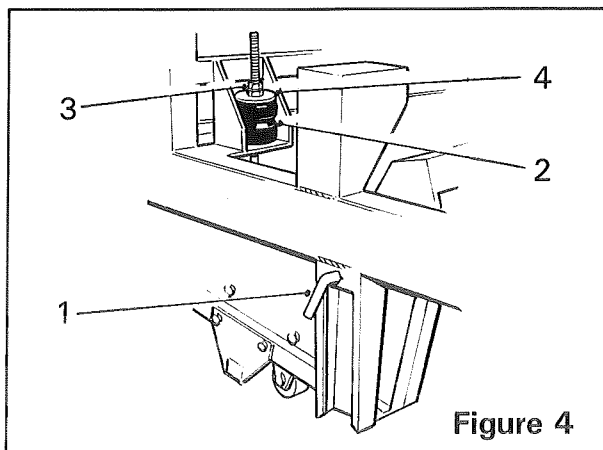

Figure 4
*Before attempting to lower the 1st stage, ensure that the locking pins (item 1, figure 4) are in the unlocked position. To unlock the 1st stage, raise the digger web slightly and then rotate the locking pins through 90° and pull them out.*
The diablo rollers control the digging depth while at the same time ensure even digging with the help of the dampers (item 2, figure 4). The rollers are adjustable for depth of work and for different widths of bed.
2. Loosen and completely back-off the damper adjusting nuts (item 3, figure 4).
4. Turn the damper adjusting nuts (item 3, figure 4) until the lower nut touches the washer (item 4, figure 4) and then lock it in position with the upper nut. Adjust both sides equally.
6. After a hundred yards, check the depth of the bed behind the machine and adjust accordingly. By adjusting the damper nuts (*item 3, figure 4*) downwards, additional assistance can be given to the diablo rollers. Always adjust both rollers and dampers equally.